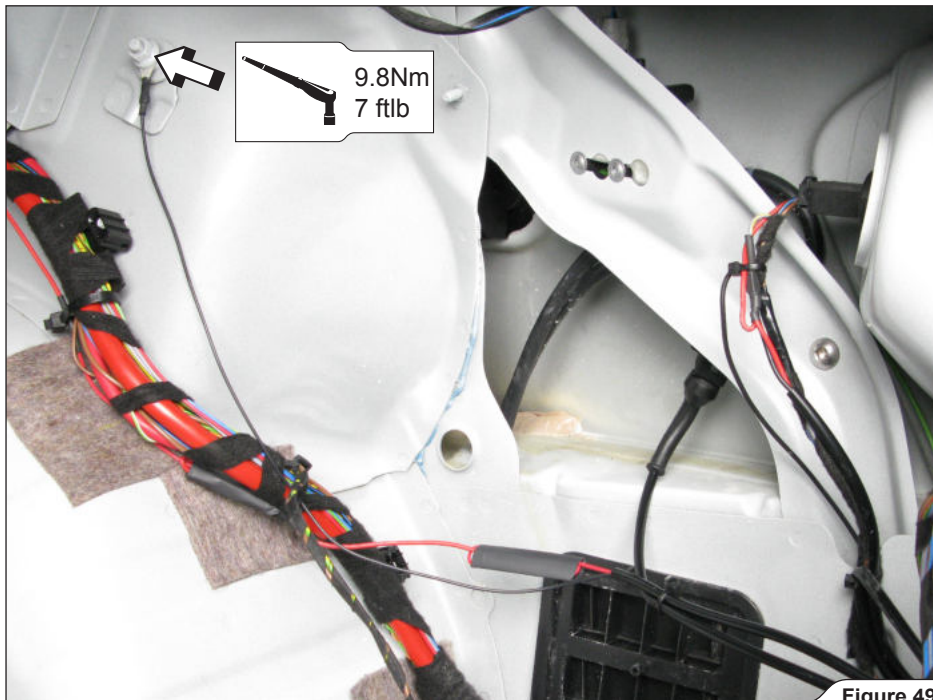

Figure 49
31. **For fuse box powered Wireless only:** tighten the ground connector (**black thin wire**) with marked original nut, install the connector to the electromagnetic valve. Secure the wiring harness, using tie wraps (**Figure 49**).